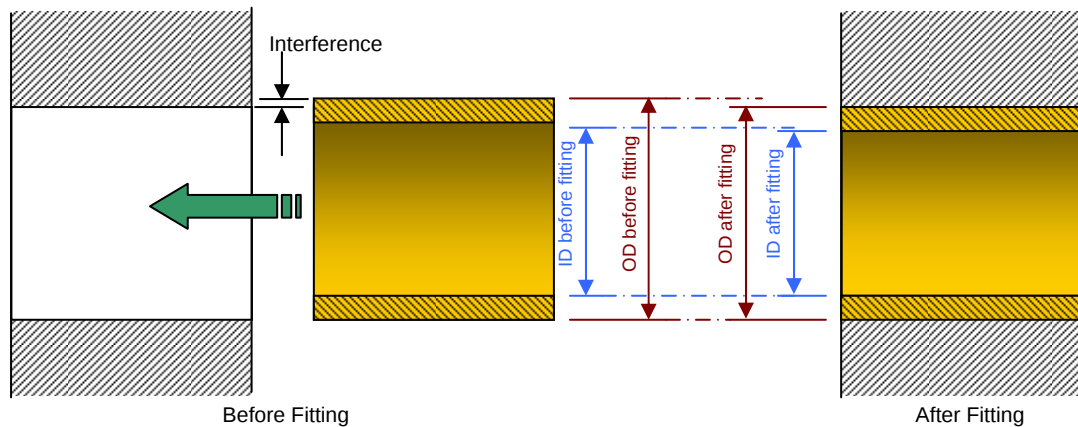

Figure 4.18: Bearing Crush
The interference fit crushes the bush, making its outside diameter (OD) smaller. Crushing also makes the ID smaller, reducing the clearance between shaft and bearing surfaces. This happens to any bearing that is an interference fit in its housing, whatever method of assembly you use. The crushing effect is shown in **Figure 4.18**.
In **Figure 4.18** you can see that the OD and the ID of the fitted bush are smaller than they were before fitting. If the clearance is now too small, you can ream smaller bushes to the correct ID. Larger bushes must be scraped to size, but this is not a job that you will have to do on the plant.